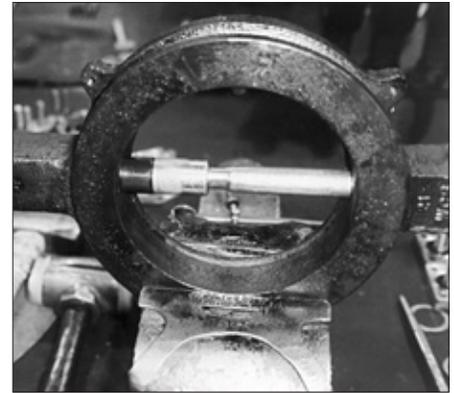

Figure 5 - Partial insertion of the shaft bearing.
2. To avoid damaging the shaft bushing (8), gently press the bushing into the shaft body journal by lightly striking the bushing (8) with a rubber mallet.
3. Once the shaft bushing (8) has been partially inserted into the valve body journal, insert the installation/removal tool against the upper shaft bushing. (see Figure 5)